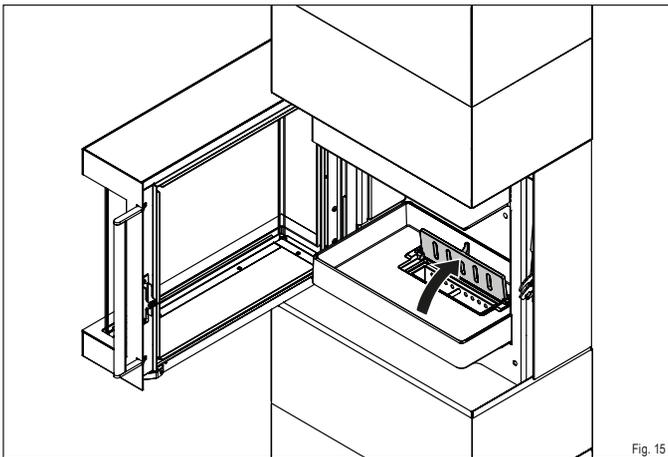

Fig. 15
- ▶ **Open the fire grate flap (Fig. 15)**
- ▶ **Open the fire grate flap (Fig. 15).**
- ▶ Open the fire grate flap (Fig. 15).